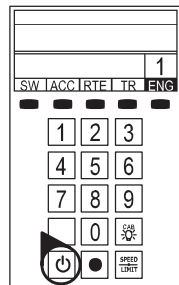

Figure 2. LEGACY start-up
- 5. Press the Start Up button on your LEGACY CAB-2 Remote, shown in Figure 2. Then, throttle up and move 'em out!** Your engine sound will start up, and the locomotive-specific touch screen buttons will populate the remote. For more information on operating your locomotive with the LEGACY system, please refer to the LEGACY section of this manual. Additional information is also found in the LEGACY System Manual, available online at [www.lionel.com](http://www.lionel.com).